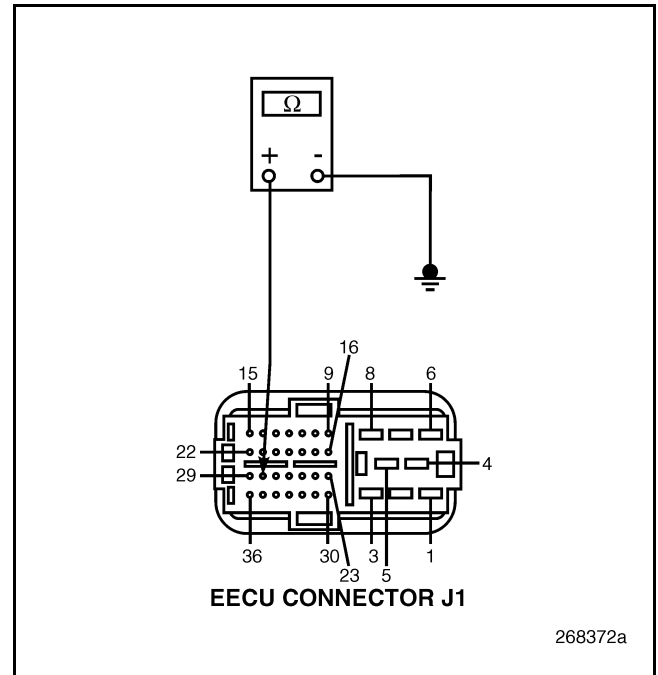

Figure 469
4. Check for continuity between EECU connector J1 pin 28 and a good ground (see Figure 469).